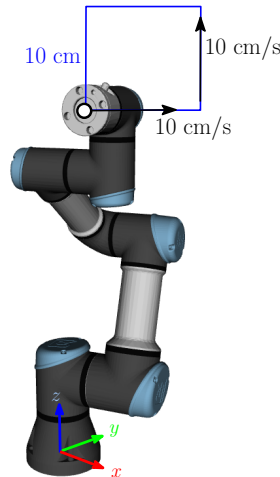

Figure 5: UR3 and target Cartesian square path. The white dot marker on the robot's last link highlights a waypoint while arrows signify the motion direction.
1. Specify the **corner points of the square** (waypoints) in Cartesian space (see Figure 5)